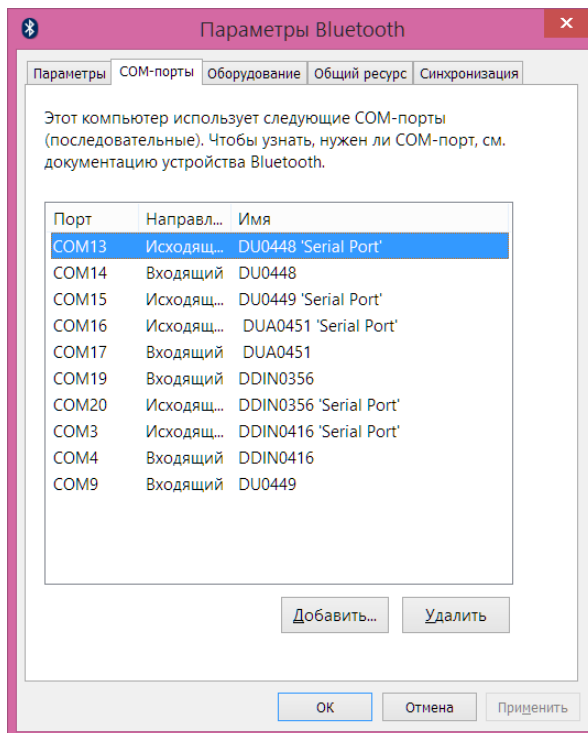

Figure 5. Bluetooth settings. Assigned Bluetooth COM ports to devices.
- in the appeared Bluetooth Options window on the COM Ports tab, see which outgoing port is assigned to the connected device (see Figure 5).
In figure 5, the outgoing port COM20 is assigned to device DDIN No. 356.